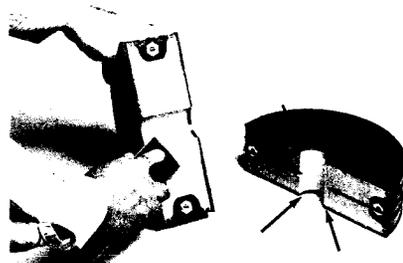

Figure 15 — Scuffing Cable Opening Area
6.12 Use emery cloth provided to remove sharp edges on plastic and foam in area of opening (Fig. 15). Scuff lightly. DO NOT REMOVE TOO MUCH MATERIAL.